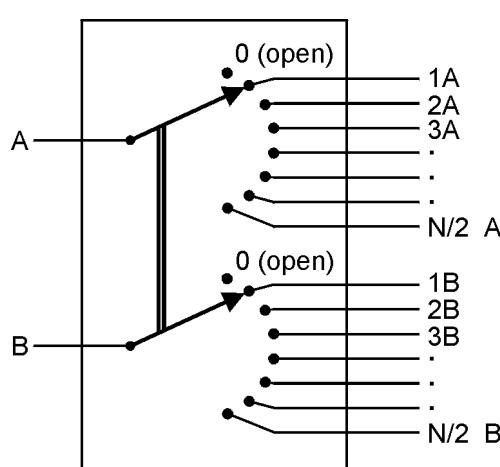

Figure 3: Dual-Common Configuration
The D configuration provides simultaneous connection of a bank of inputs to outputs (Figure 3). The input A can be connected to 1A of 1B or ... (N/2)A. In this dual-common configuration, channel connections are stepped in pairs. The channel displayed is the current channel pair (A and B). The number of channel pairs is equal to one-half of the total number of channels (N).